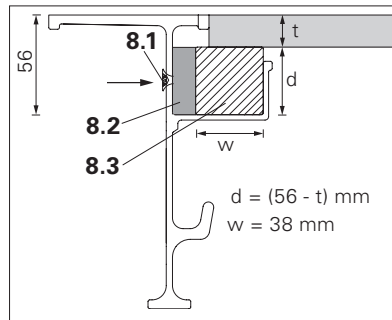
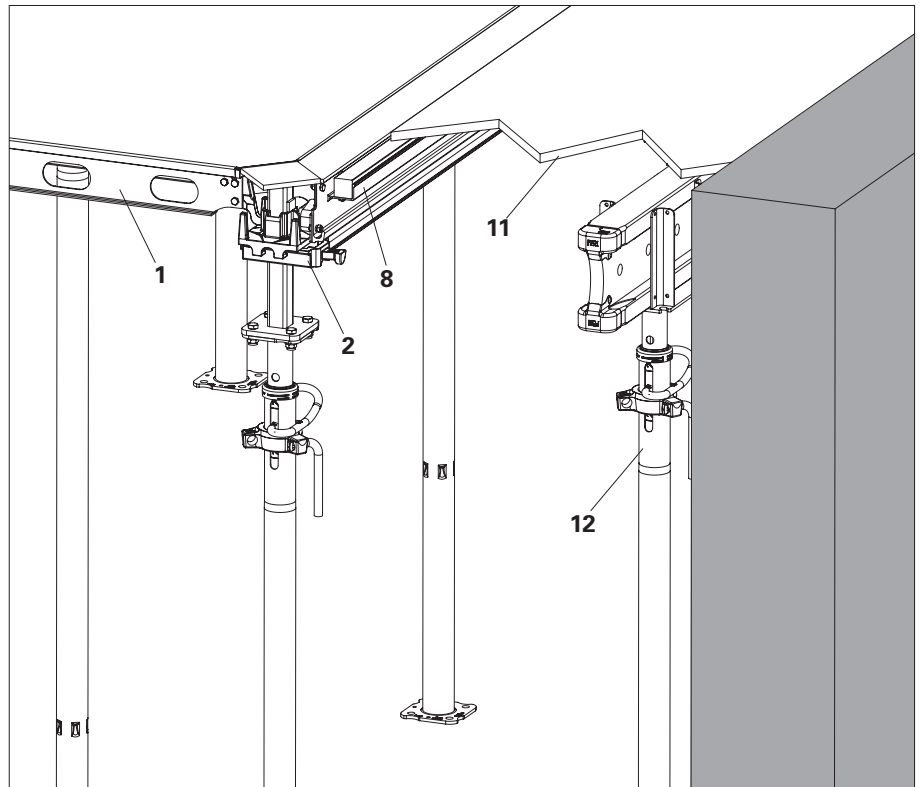

Fig. A7.01a
Fig. A7.02
1. Form the slab with Panel ADP (1) as far as possible, see Section A5 - Shuttering.
- The filler beam ADF (8) is compatible for plywood thickness (t) ranging from 12 mm to 18 mm by varying the timber insert (8.3) size. (Fig. A7.01a)
- Infill size up to 60 cm and the no. of supports (12) depend on slab thickness and plywood type (E-modulus and direction of grain). This needs to be checked by contractor.
- Use torx screw 6 x 40 mm (8.1) article no. 024540 to secure the timber insert (8.3) with 12 mm packing (8.2). at every 60 cm c/c. (Fig. A7.01a)
- Timber insert (8.3) is not included in the Filler Beam ADF (8).
3. Place the Filler Beam ADF (8) on the drophead flyplate pin. (Fig. A7.02)
5. Erect additional prop with Crosshead and Girder VT 20 (12).
6. Continuously fill the compensation area with Plywood (11).
7. Secure the Plywood (11) on top with nails. (Fig. A7.02)